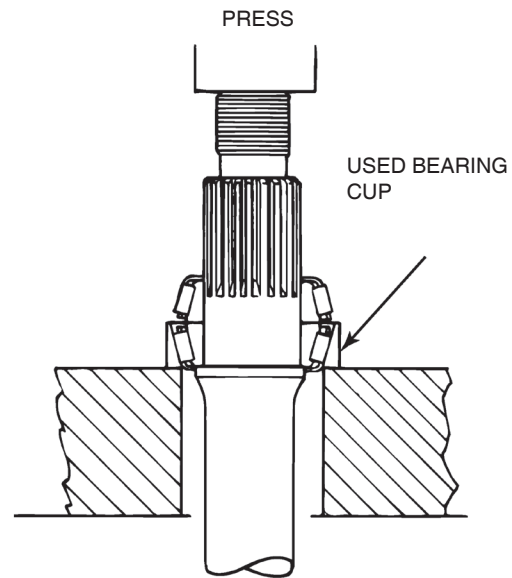

Figure 3.14
2. Place the output shaft into a press. Figure 3.14. The used bearing cup supports the output shaft.